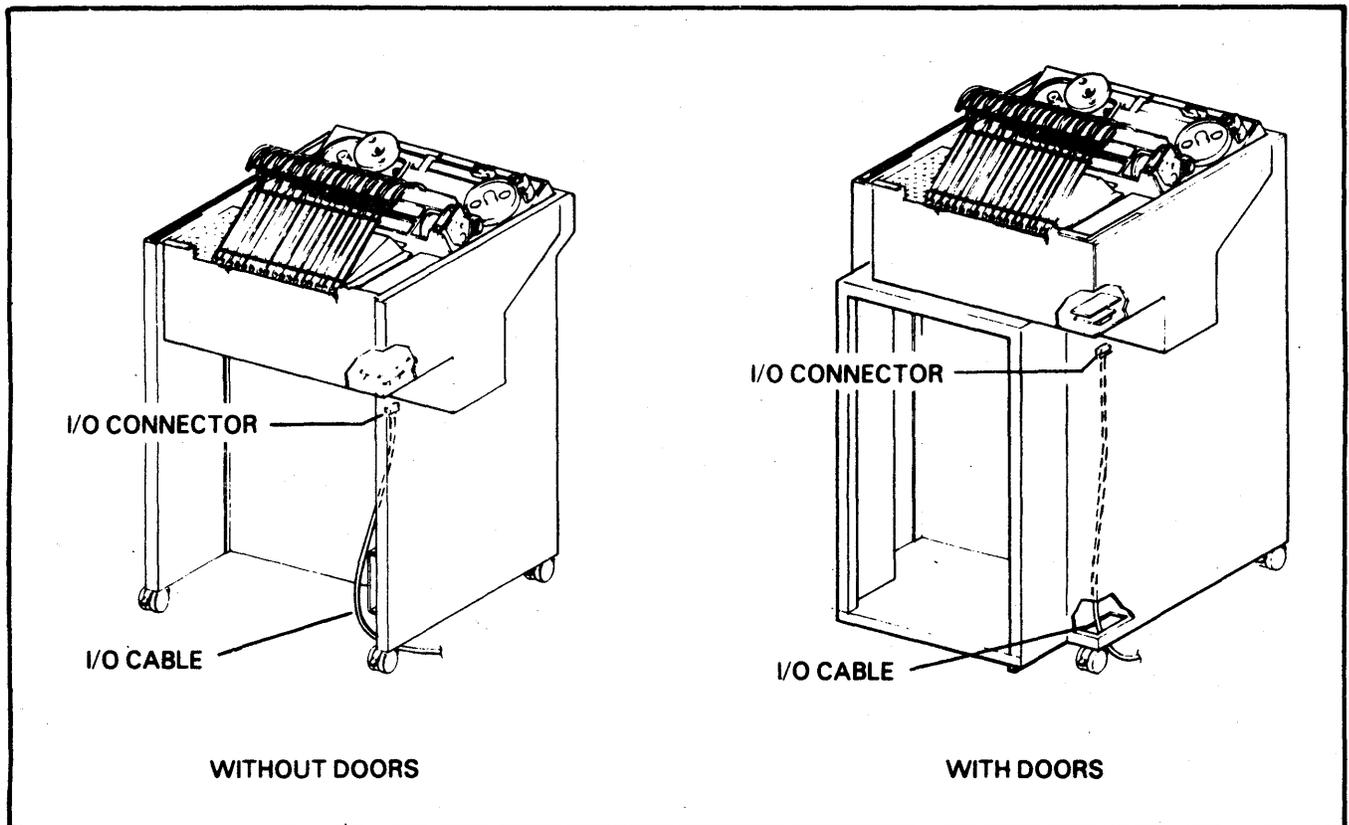

FIGURE 1-3. I/O CABLE INSTALLATION
10. Install the I/O cable through the cutout in the back of the printer (bottom right side). See Figure 1-3. The cable and its connector must be CSA certified or rated UL94V-1 or better. Check to be sure the bonnet latches correctly. If it doesn't, the printer may have to be leveled. Leveling is achieved by rotating the appropriate caster's adjusting nut; clockwise will raise the caster, counter-clockwise will lower the caster.